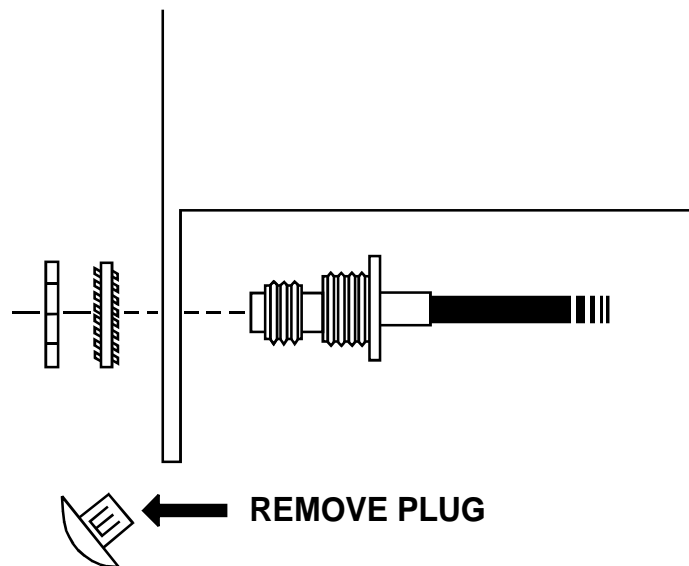

Figure 6
- Remove the plug “knock outs” from the front panel. See Figure 6.